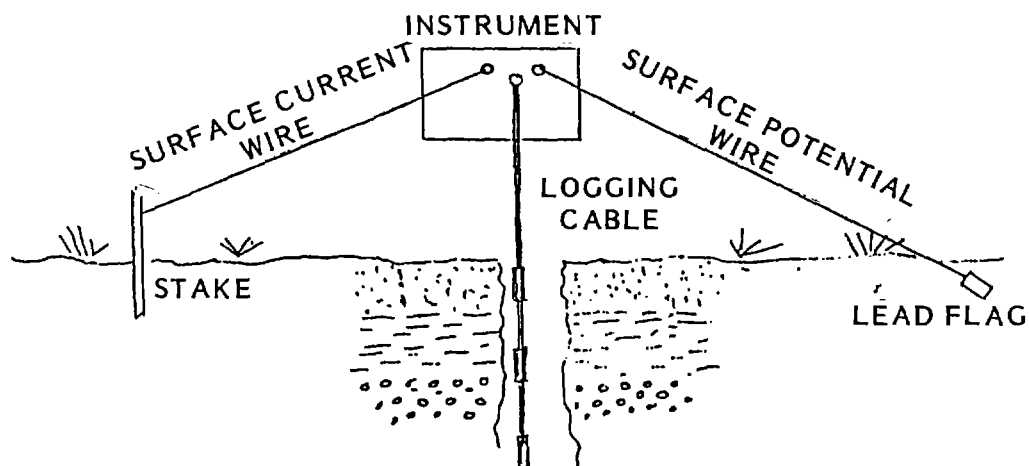

Figure 2-43. Setting up Logging Equipment
- (1) Set up the equipment as shown in figure 2-43. Plug the red and black plugs into the instrument (red in CUR, black in POT), and extend each wire about 75 feet to opposite sides of the hole. The steel stake should be 1/4 to 1/2 inch in diameter and 2 to 3 feet long. Drive the stake two-thirds into the ground and attach the red clamp. Position the lead-oxide flag, equally distanced from the hole on the opposite side. Attach the wire to the flag and bury flag and wire about 1 foot deep. Moisten and tamp the soil down firmly.
- (2) Before connecting the waterproof connectors on the probe and on the logging cable, clean both halves thoroughly and make sure each is dry. Aline and mate the pins and socket; when properly mating, you should hear a "POP" as the connectors join, (3) Lower the probe to the bottom of the well, being careful not to let the probe "free-fall." Then connect the jumper cable into the cable receptacle on the instrument panel.